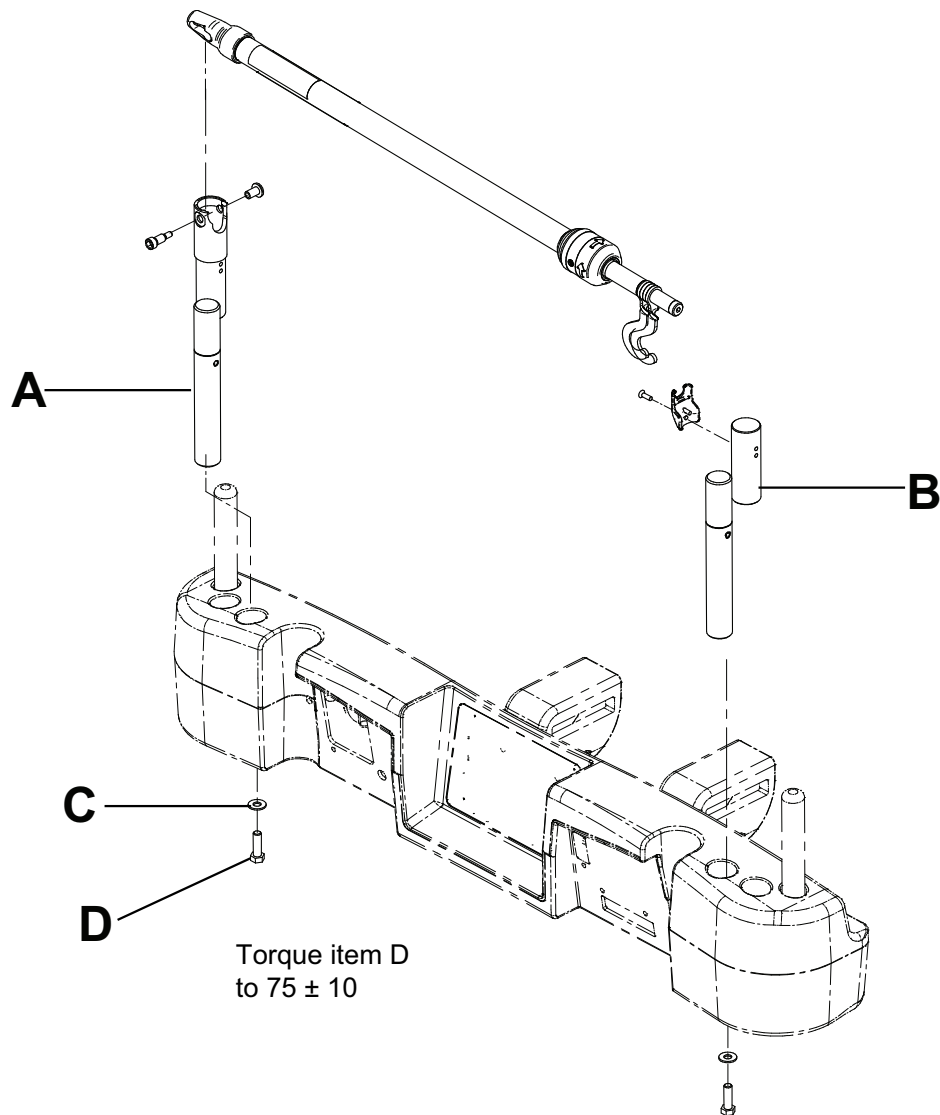

Figure 111 – Single Havasu two stage IV pole (Left side shown)
1. Using a 3/8 in. drive ratchet and a 1/2 in. socket, install one washer (C) and one bolt (D) to secure the IV pole into the socket at the head end of the product (A) (Figure 111).
2. Using a 3/8 in. drive ratchet and a 1/2 in. socket, install one washer (C) and one bolt (D) to secure the IV pole support into the socket at the head end of the product (B) (Figure 111).